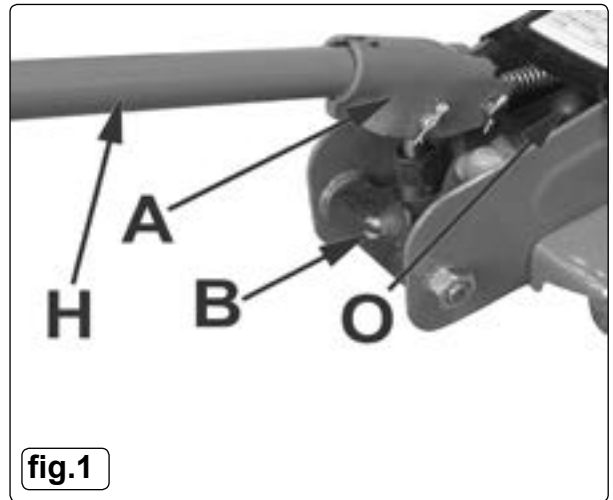

fig.1
6.1.6. To check the oil level, fully lower the jack. Remove filler screw (fig 1.O). The correct level is the bottom of the screw hole. If oil level is low, fill as required.